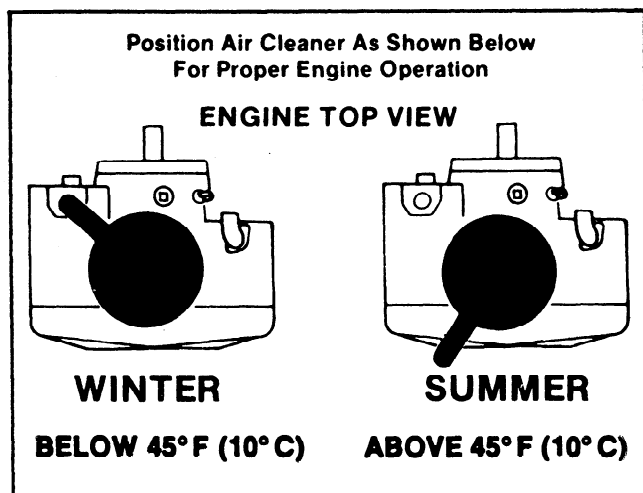

Figure 3-7. Typical Anti-Icing Air Cleaner Cover Positions
- Install air cleaner cover with air inlet duct positioned for the correct season. Refer to the decal affixed to the cover (see Figure 3-7).